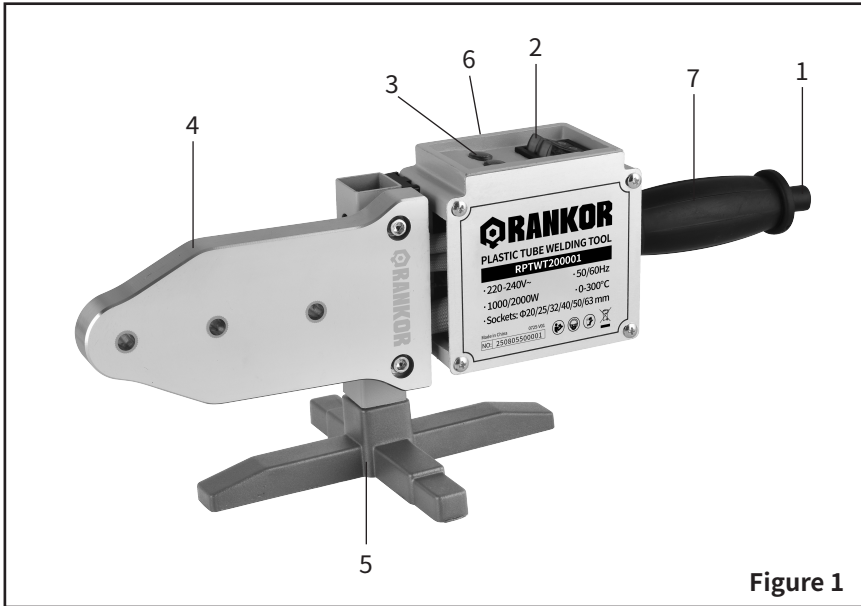

Figure 1
- Place the machine on the stand (Figure 1, Item 5) well.
- The green indicator light (Figure 1, Item 3) means the machine is heating, while the red indicator light (Figure 1, Item 3) means the machine has stopped heating and is ready for use.